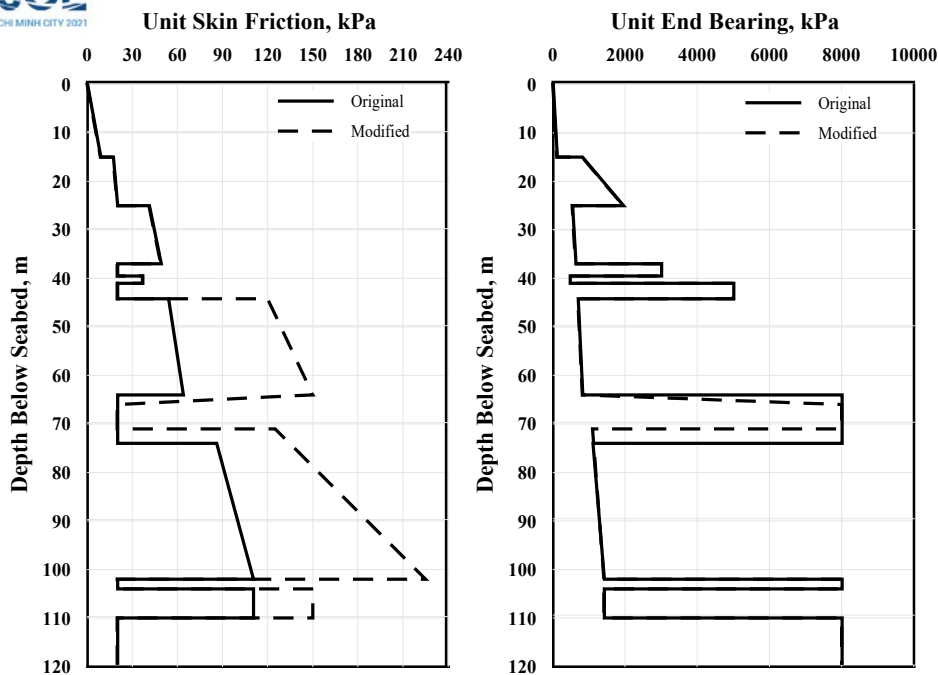

Fig 8: Modified/Static Unit Skin and End Bearing values vs Penetration
- The modified unit skin and end bearing values vs Penetration is shown Figure 8.